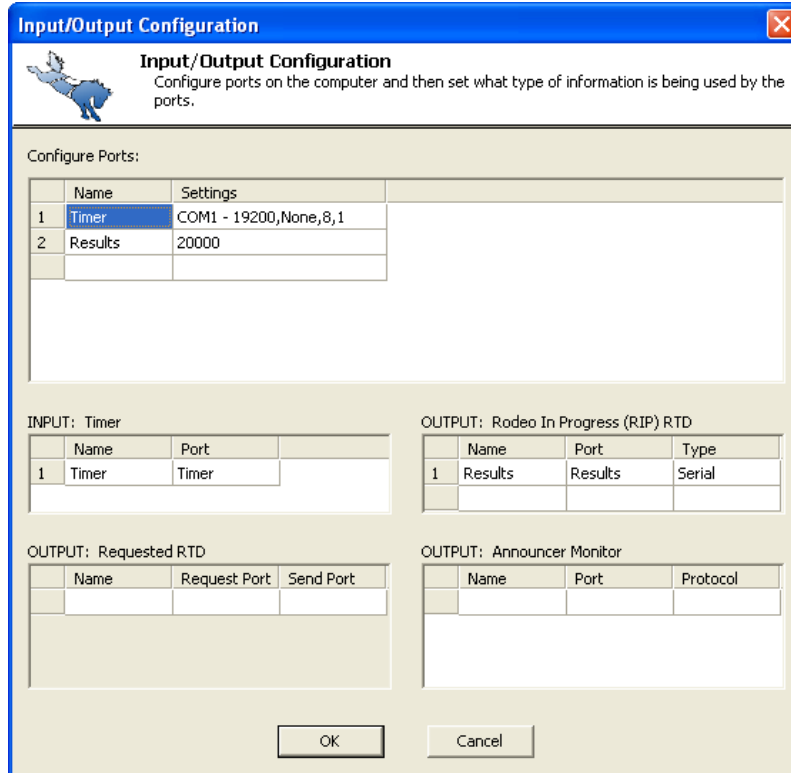
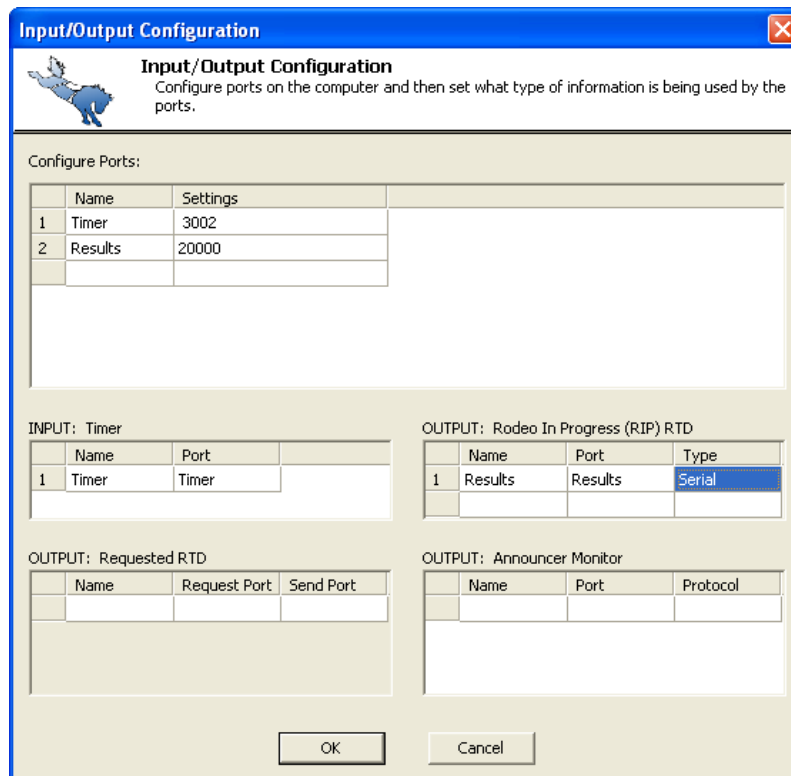

Figure 4: Input/Output Settings
Figure 5: Input/Output Settings (using DCS)
- The settings in the *Input/Output Configuration* window should look like *Figure 4* (this window will look like *Figure 5* if using DCS):